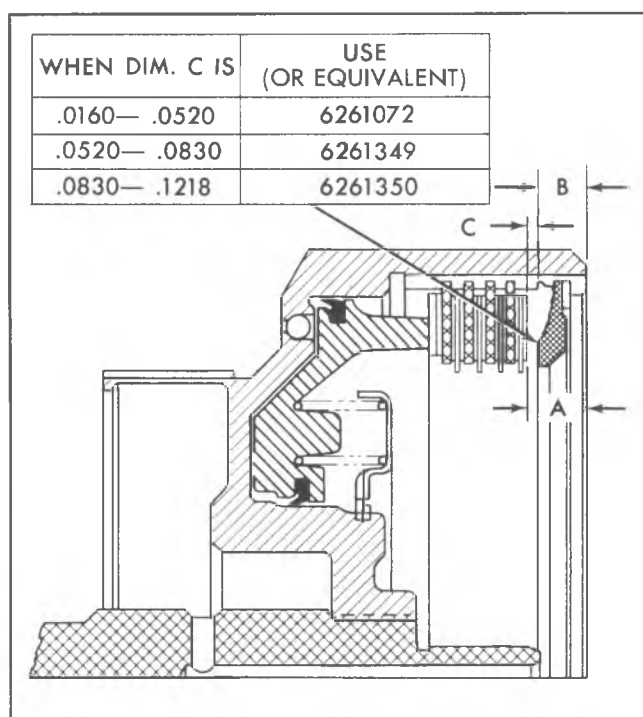

Fig. 84M--Determining Selective Fit for Forward Clutch Pressure Plate
6. Install forward clutch pressure plate (selective fit) and retaining ring. Using chart on Figure 84M to select correct pressure plate (dimension C), measure distance from the top of clutch pack to the top of clutch drum (dimension A). Measure distance from